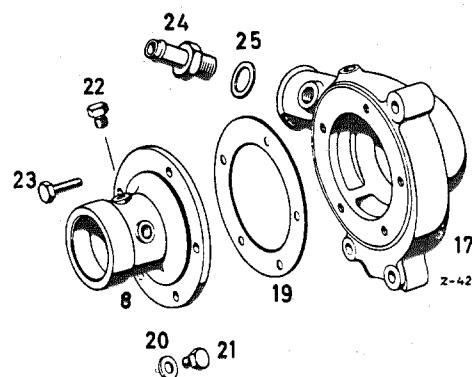

Fig. 20 — 5/8
15. Use Fitting Sleeve 180 589 09 39 to press the seal (15) into the seal retainer (16) and to press the seal retainer onto the bearing housing.
16. Press the spacer washer (14) and the hub (18) onto the shaft, using Fitting Sleeve 187 589 09 39 for the former. The hub must be flush with the end of the shaft.
17. Once more check the distance from the flange of the bearing housing to the oblique face of the impeller ( $23 \pm 0.2$ ), then screw the water pump housing (17) onto the bearing housing (8). Use a new gasket (19) when doing this (Fig. 20 — 5/8).